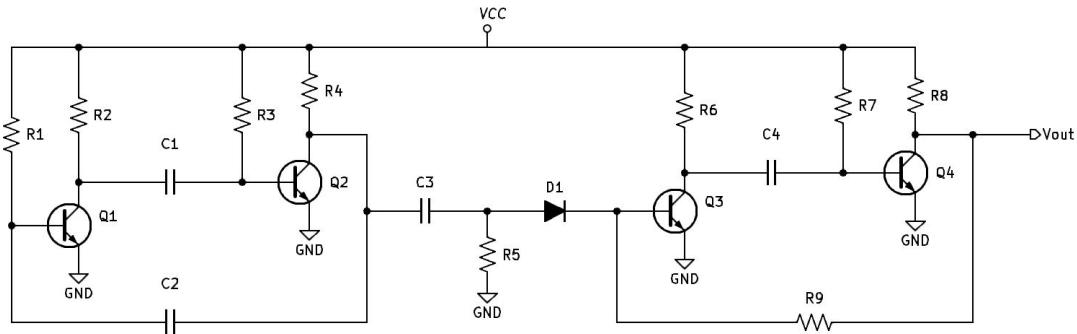

Figure 12.8: Astable Multivibrator Extreme Duty Cycle Circuit Variant
- To produce an extreme duty cycle waveform, an a standard Astable circuit can be used to drive/trigger a standard Monostable circuit as seen in Figure 12.8.